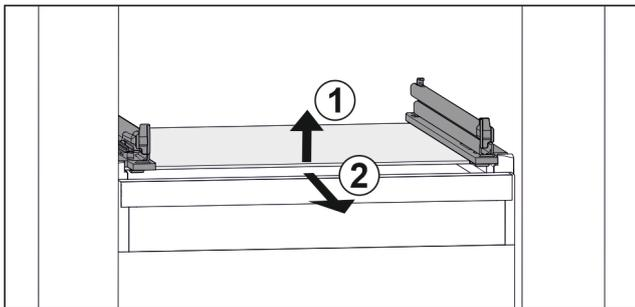

Fig. 63 Example illustration of glass shelf
- ▶ Lift glass shelf at the front. Fig. 63 (1)
- ▶ Take out glass shelf to the front. Fig. 63 (2)